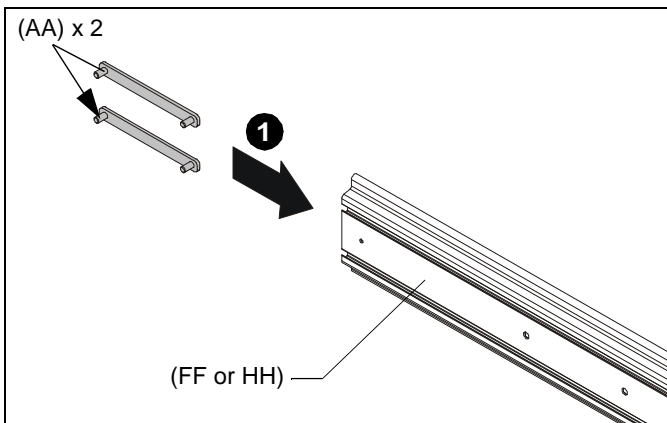

Figure 10
1. Slide two T-slot nuts (AA - one in top mounting rail slot and one in bottom) for each screen into end of mounting rail (FF or HH). (See Figure 10)